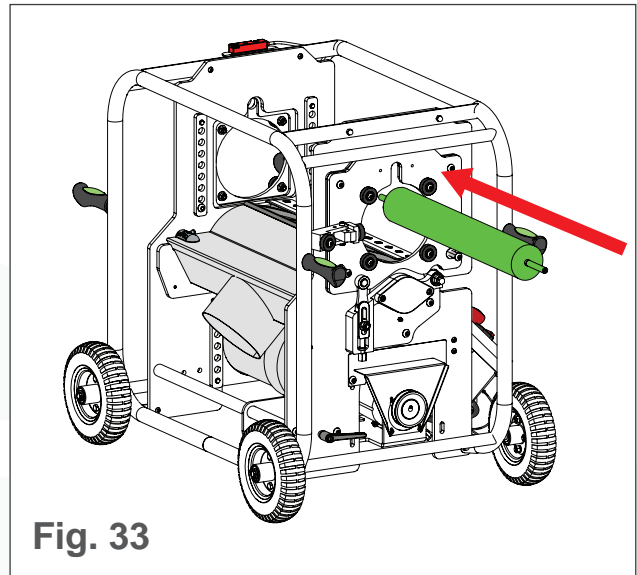

Fig. 33
1. Insert the brush, and hold in place (see Fig. 33).